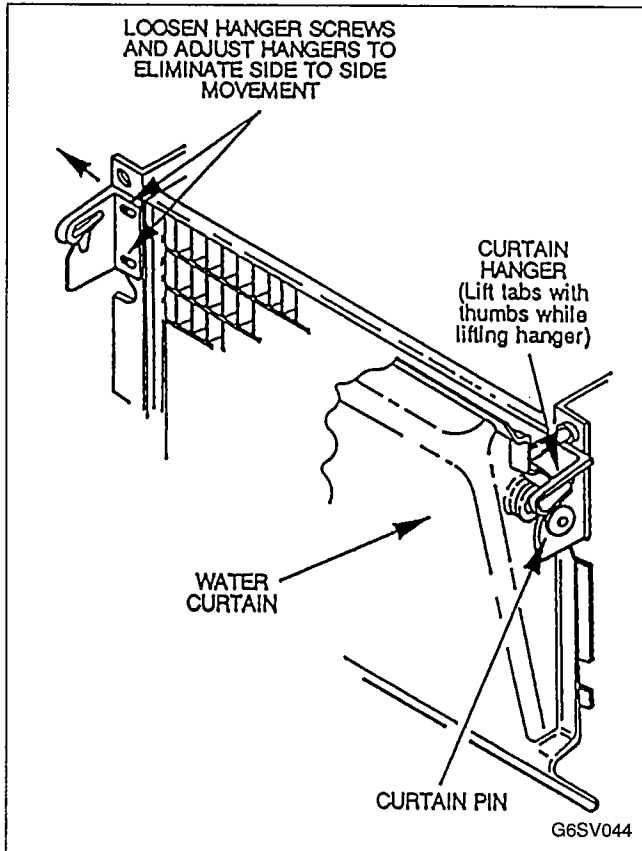

FIGURE 42. WATER CURTAIN CHECK
1. Pull bottom of water curtain (Figure 42) away from evaporator, then release. Curtain should fall back to evaporator.